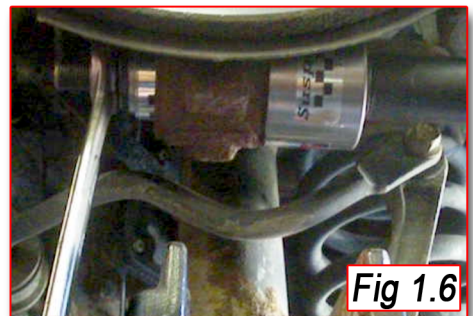

Fig 1.6
6. Press module forward with **SS MOD Tool** (SMX-MDT) using 19mm bolt supplied. **(Fig 1.6)**